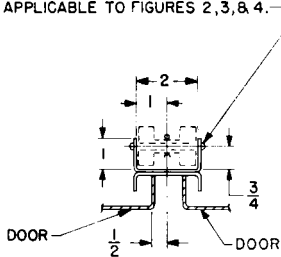

Figure 2
(1) $\frac{1}{4}$ DRILL IN EACH LEG OF INSIDE DOOR CHANNEL AT C/ OF VAULT HANDLE APPLICABLE TO FIGURES 2, 3, & 4.